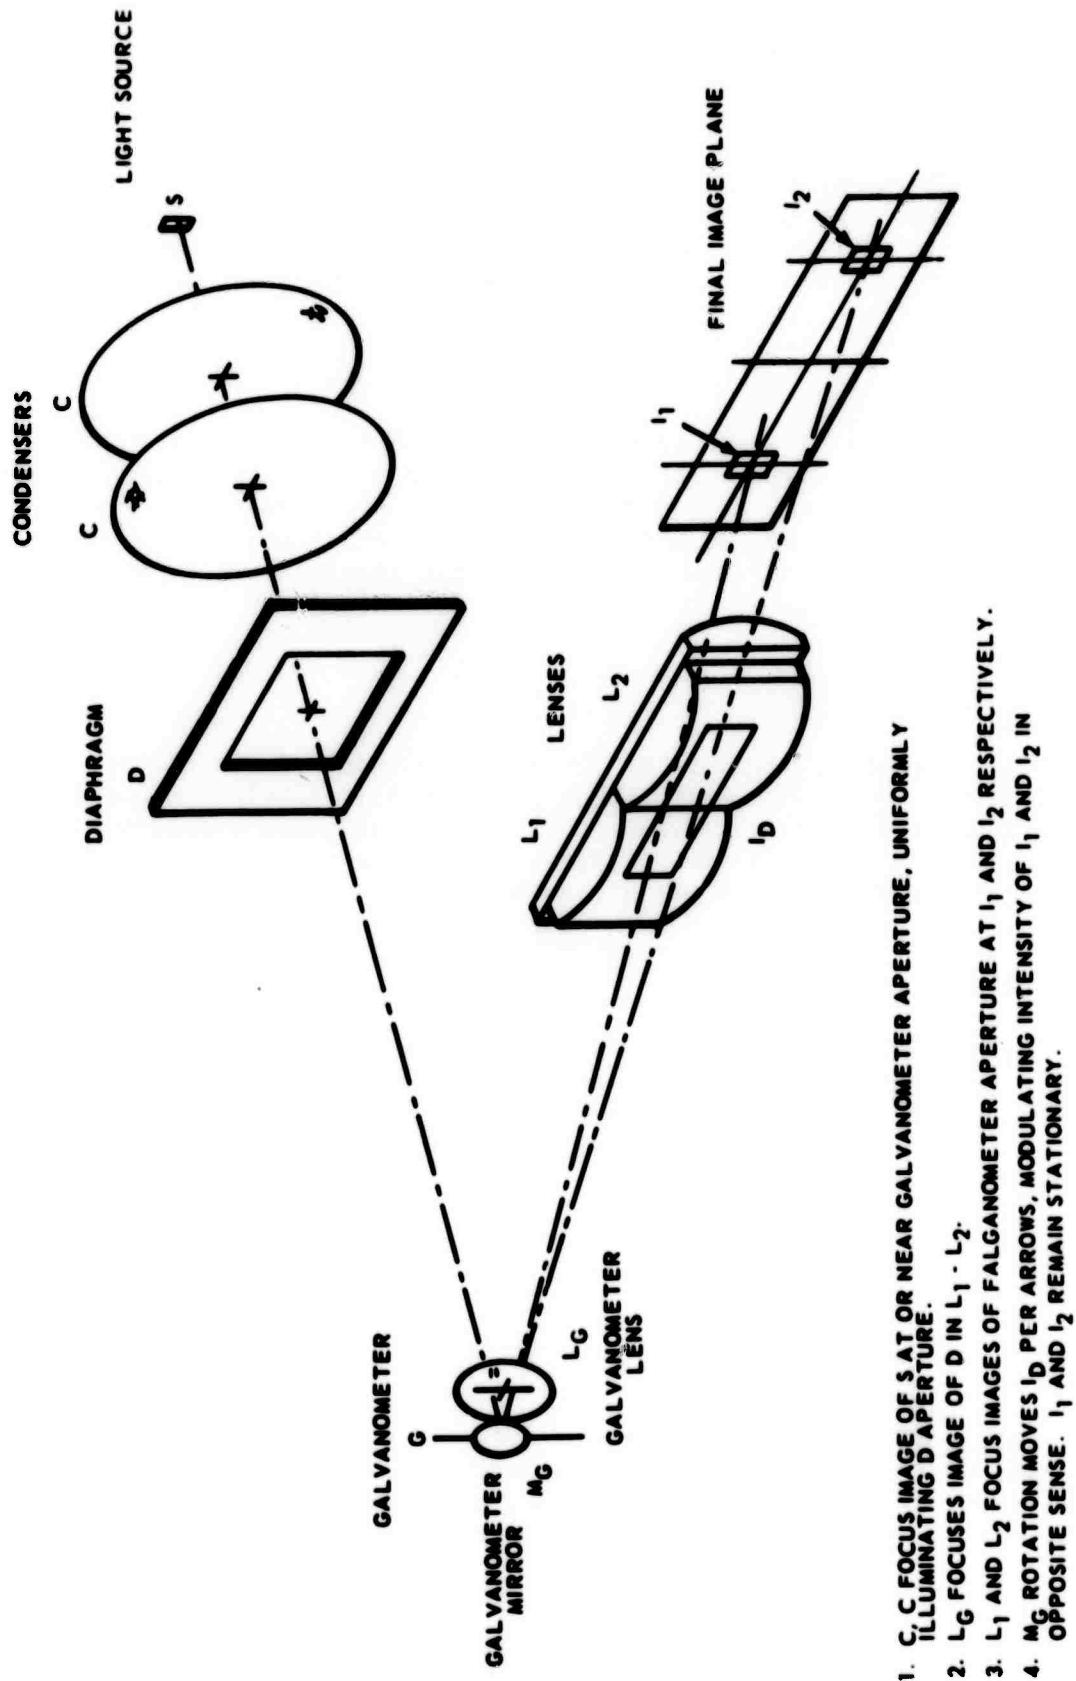

Figure 12. Diagram of optical system
Figure 12 is a drawing of the optical system used in the amplifier. The condensing lenses (C, C) gather light from the radiating source (S), uniformly illuminate the square diaphragm (D) opening, and focus an image of the source on the galvanometer mirror (Mg). The galvanometer lens (Lg) focuses an image of the diaphragm opening on the splitter-lens assembly (L1 and L2). This image appears as a square of light. As the galvanometer mirror rotates, the square of light moves laterally across the splitter-lens assembly. When the square of light is centered on the splitter-lens assembly, equal amounts of light are focused on the final image plane, the cathodes of the phototubes. Each spot of light on the image plane is an image of the galvanometer mirror (distorted by cylindrical shape of splitter lens), and each varies in intensity when the galvanometer is rotated. The two spots of light will remain stationary on the photocathodes when the phototubes are at the proper focal point.